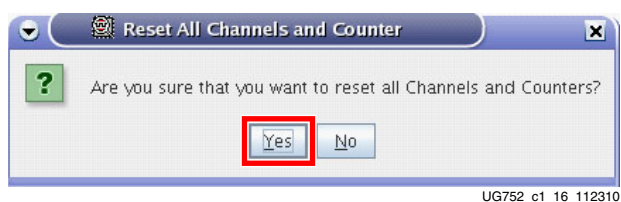

Figure 1-15: Reset Confirmation Dialog Box
- When the confirmation dialog box opens, click **Yes** (Figure 1-15).